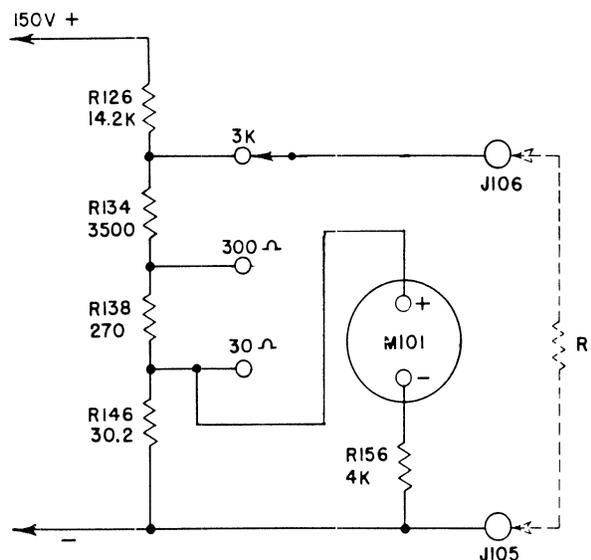

Figure 2-12. Simplified Medium Range Ohmmeter Circuit
- (a) The circuit established when the FUNCTION selector is set for OHMS and the RANGE selector is in one of the three medium resistance positions is shown in Figure 2-12.
(3) The high resistance ranges 30,000 OHMS AT CENTER SCALE and 300,000 OHMS AT CENTER SCALE.